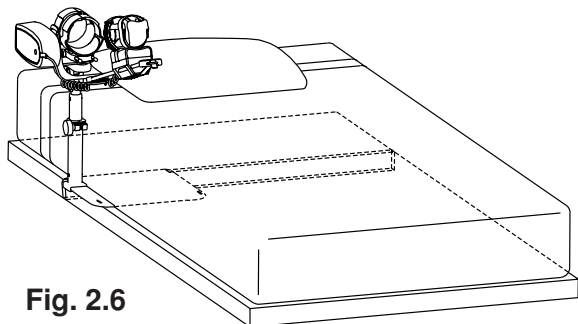

Fig. 2.6
- Remove one (1) set of long and short straps from the base plate and buckle together. Connect the Velcro ends of the long straps together, secure one end to the mounting accessory base plate and the other to the opposite side of the bed around the bed frame. If the mattress is small enough both straps may go completely around the mattress. (See Fig. 2.6)